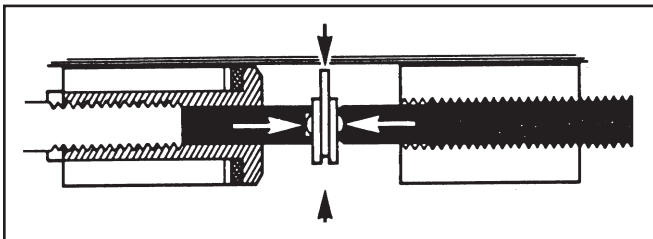

Figure 21. Forming a Rivet Head
6. Turn the spinner crank while slowly running the take-up handle inward (approximately one full revolution) until the rivet head is formed (Figure 21).